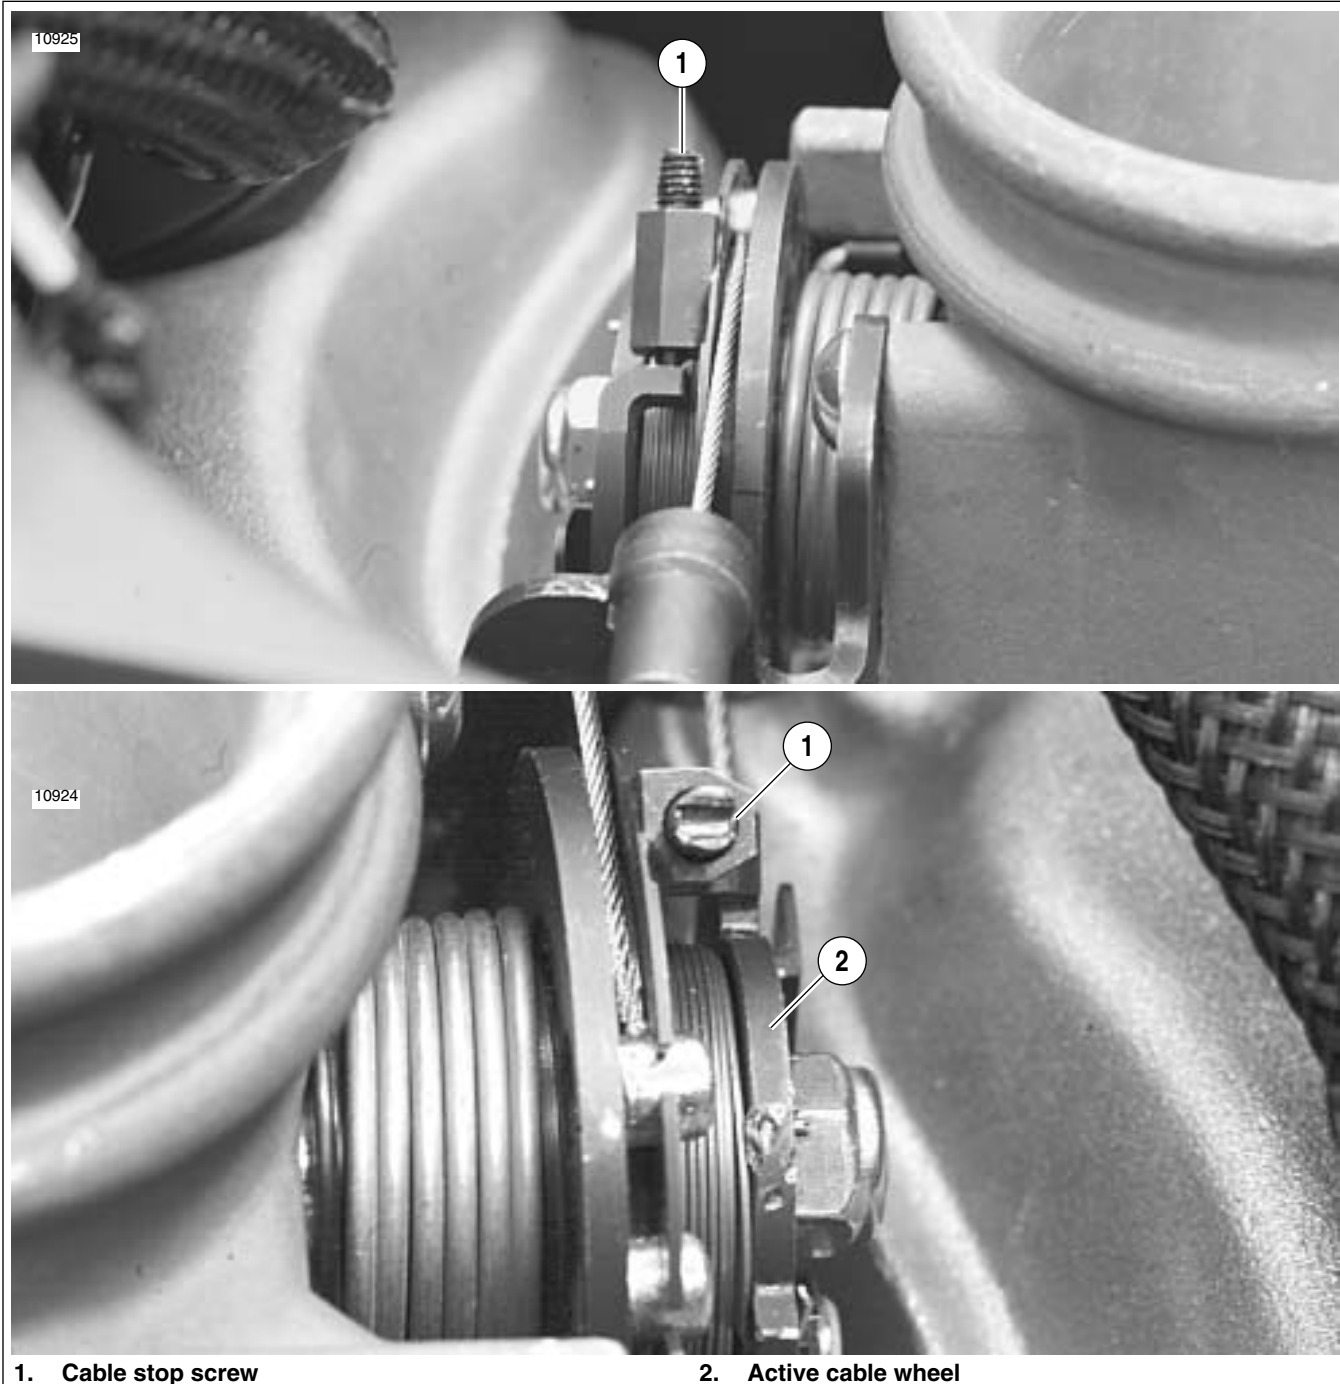

Figure E-3. Active Intake Cable Stop Screw
7. Remove baseplate (10). See 4.44 AIR CLEANER ASSEMBLY.
8. See Figure E-3. If the active cable needs to be replaced disconnect from cable wheel (2).